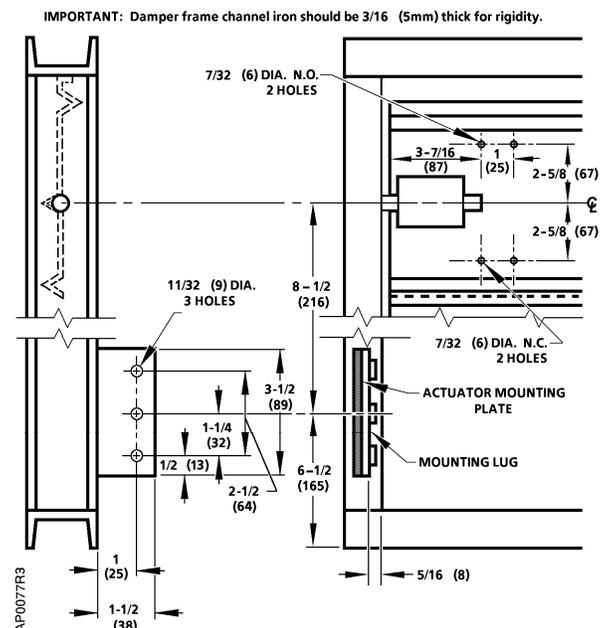

Figure 6. Frame Mounting-Type B Dimensions. Dimensions in Inches (Millimeters).
2. Weld the mounting lug parallel and 5/16-inch (8-millimeter) from the inside edge of the damper frame and perpendicular to it (Figure 6). Weld the lug along both sides. The lug should be as close as possible to the corner of the damper frame to minimize deflection. The damper manufacturer should weld the lug.
4. Attach rocker to blade in proper position for normally open or normally closed damper (Figure 6).